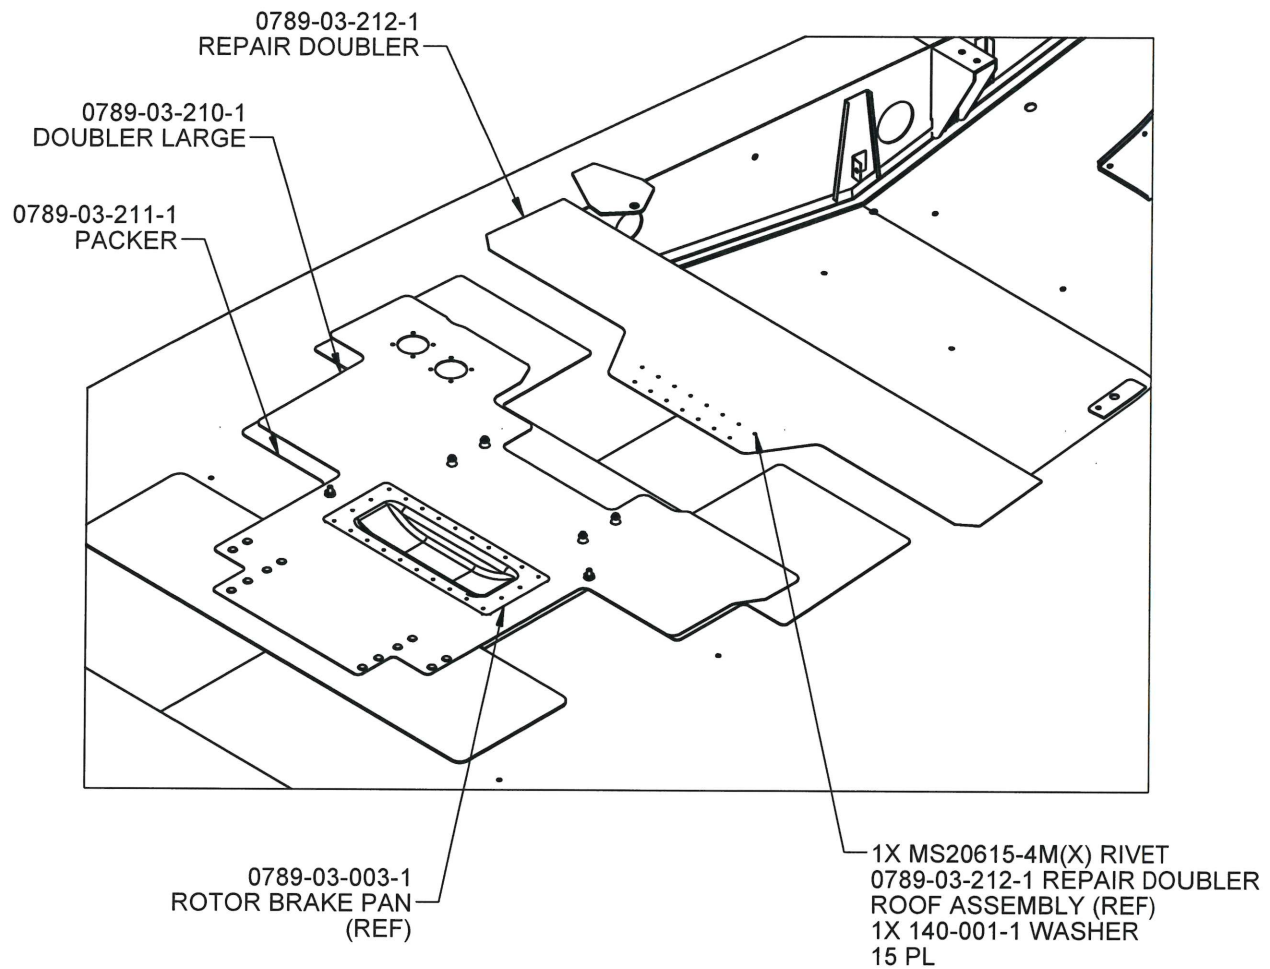

Figure 2 - Doubler Installation
3. On S/N 53494 and 53599, transfer drill 0789-03-210-1 Doubler Large and 0789-03-211-1 Packer in place of p/n 0789-03-001-1 Doubler Large, p/n 0789-03-002-1 Packer and p/n 0789-03-005-1 Doubler per 0789-01-101 Doubler Installation Brake Disk, 0789-01-102 Doubler Installation and TB 407-13-104. On S/N 53494 only, transfer drill also per Bell Repair 09RL-073. Refer to Figure 2 and Figure 3.
6. Transfer drill the 0789-03-212-1 Repair Doubler from the cabin roof in place of 407-030-401-177 Skin. Transfer drill to the roof assembly from the 0789-03-212-1 Repair Doubler to the cabin roof using the FWD two rows of holes on the 0789-03-212-1 Repair Doubler per Figure 2. Take care not to damage underlying structures during drilling operation. Do not drill through inner skin except outside core area.
8. Install 0789-03-212-1 Repair Doubler in place of the Bell 407-030-401-177 Skin. Install the FWD two rows of holes on the 0789-03-212-1 Repair Doubler using MS20615-4M(X) Rivets and 140-001-1 Washers on the under side of the roof assembly per Figure 2.